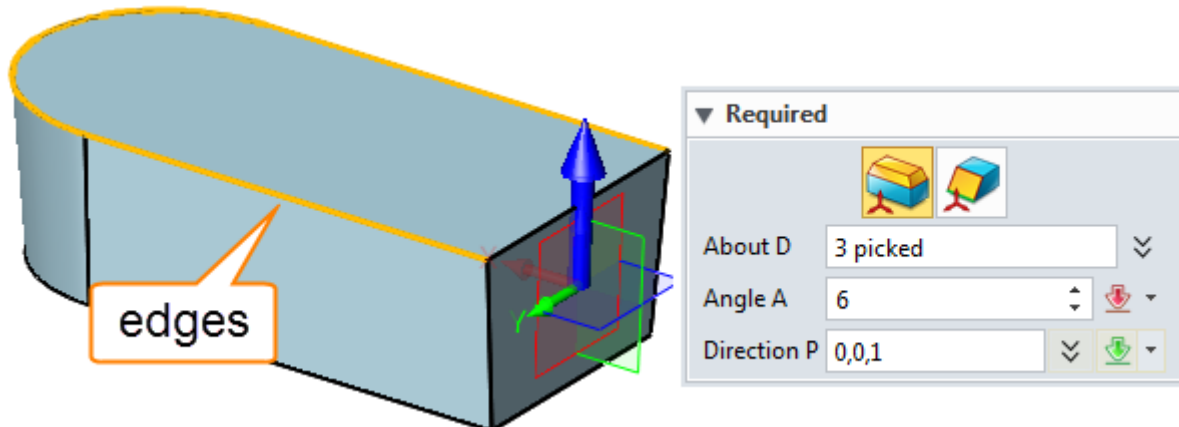

Figure45 Draft—Edges
STEP 01 Select the edges to draft, see Figure45.